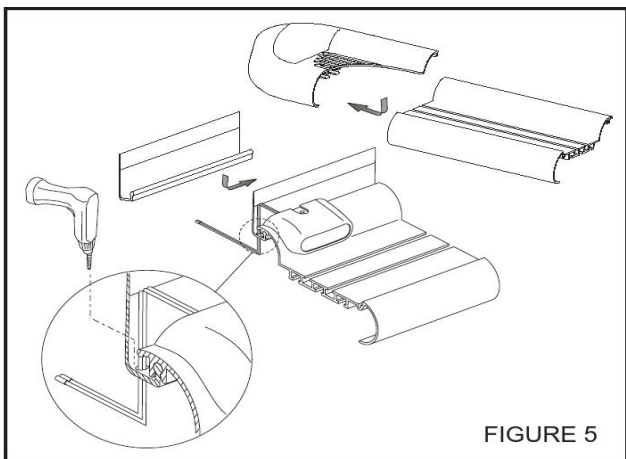

FIGURE 5
5. For Sure-Grip Running Boards, if purchased, slide closure strip as shown. Set lights (if purchased) in appropriate location. Attach to Sure-Grip Running Board as shown. **SEE FIGURE2.** Drill hole through plastic strip and run wires as shown. **SEE FIGURE5**